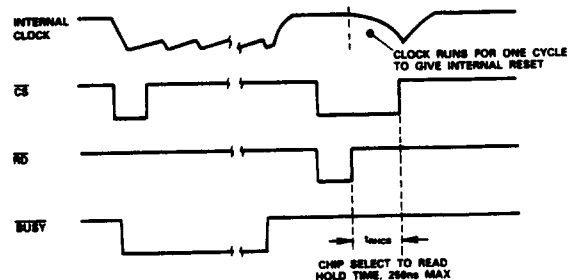

Figure 7. Chip Select to Read Timing
2. $\overline{CS}$ must return HIGH within 250ns after $\overline{RD}$ goes HIGH otherwise a new conversion may be initiated and the AD7574 will begin operating in the ROM mode (see Figure 7).